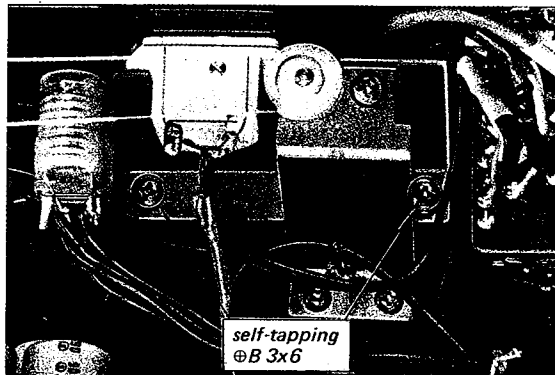

Fig. 2-15. Meter holder replacement
3. Remove the two self-tapping screws ($\text{Ø} B 3 \times 6$) securing the meter holder to the chassis as shown in Fig. 2-15.